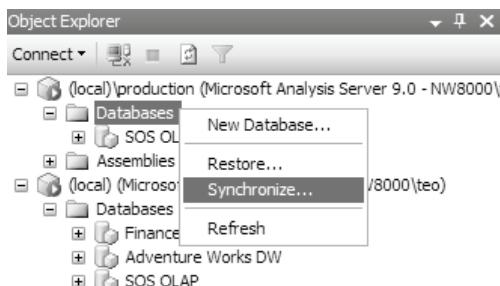

Figure 13.15 Using the Synchronize Database Wizard to synchronize a production database from a staging database.
1. You need to run Synchronize Database Wizard on the target server. Right-click on the Databases folder (Figure 13.15) on the `(local)\production` server and choose *Synchronize* to launch the Synchronize Database Wizard.